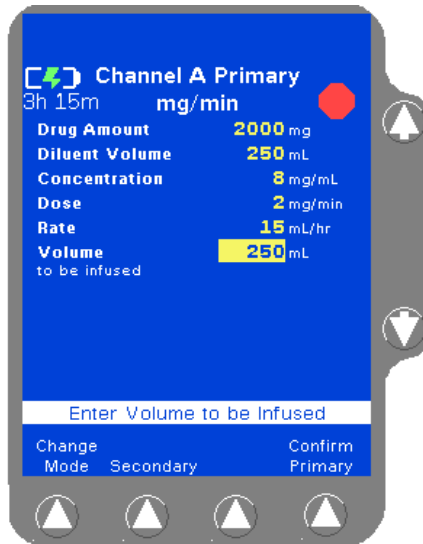

Figure 4-56 Enter Volume to be Infused
10. Use the ↓ key to highlight the **Volume to be infused** field (Figure 4-56).